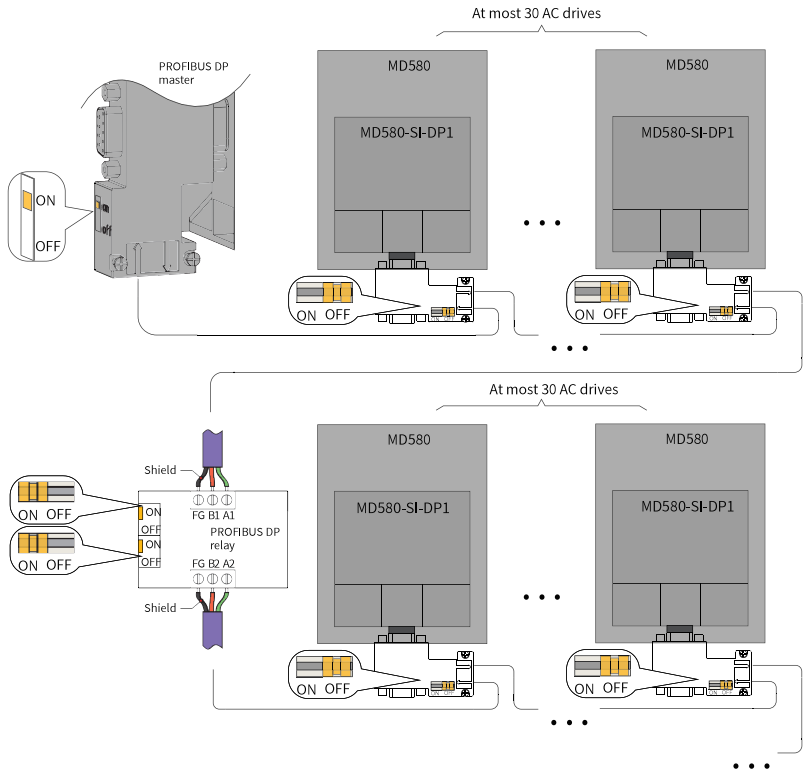

Figure 5-34 Connection of the multi-device system with repeaters
- For the multi-device system without repeaters, termination resistors need to be connected to the first and last AC drives, and the termination resistor of the repeater also needs to be connected, as shown in "Figure 5-34 Connection of the multi-device system with repeaters" on page 76.